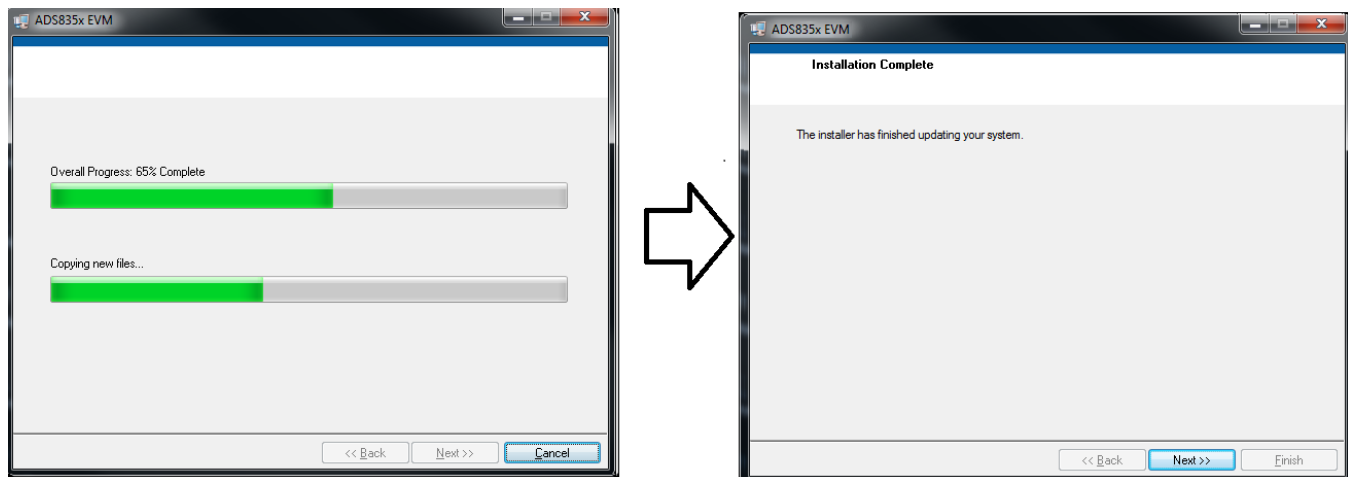

Figure 13. Progress Bar and Installation Complete Screens
9. The progress bar is followed by an installation complete notice, as shown in Figure 13.